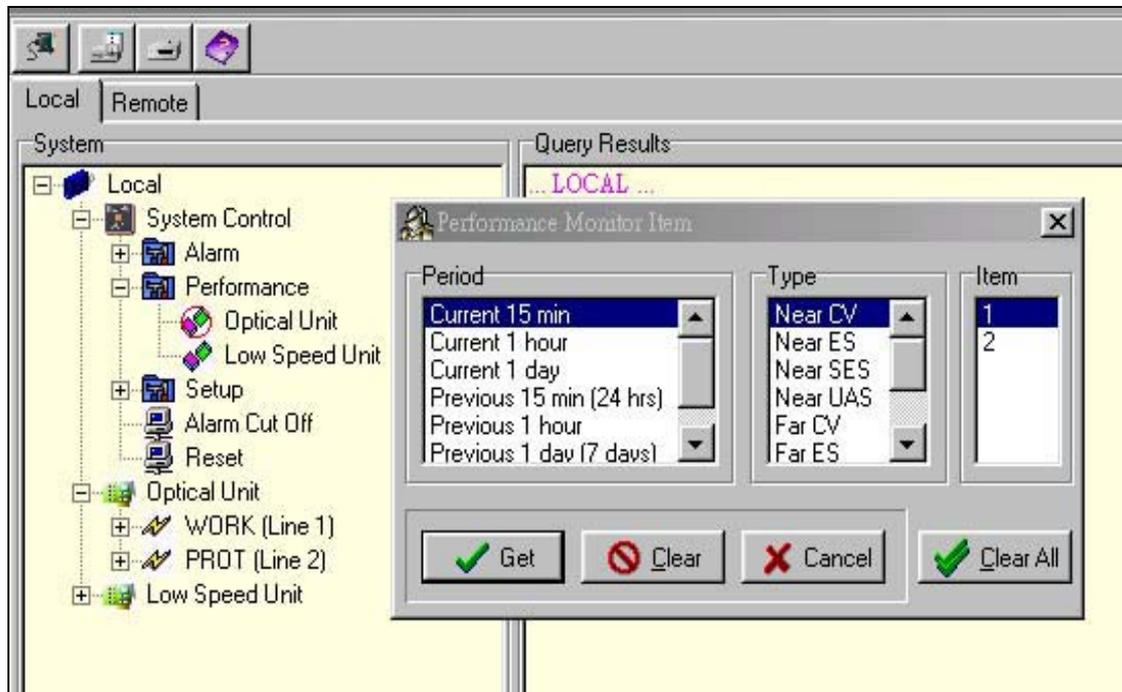

Fig.19 Performance monitor setting window
**Performance monitoring** provides an interface to monitor performance parameters in the FOM16. It consists of two parts: optical unit and low speed unit. Each unit is selected and the new window is shown in Fig.19. There are monitor, period, type, and item to choose. Monitor Period provides some options to choose current 15 minutes, current 1 hour, current 1 day, previous 15 minutes (24 hours),